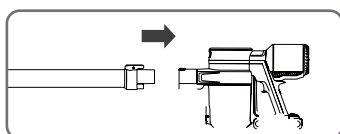

Figure 1
- Push the end of the aluminium tube horizontally into the vacuum intake of the main body and ensure that it is securely attached. You should hear a click when it locks in place (Figure 1).